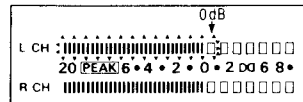
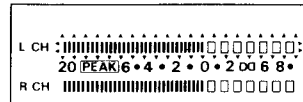

Fig. 21
Fig. 22
B. Adjust VR302 so that the +1dB segment of the FL meter lights up with the input level of 0±0.4dB range of the standard input level (See fig. 21).
7. Repeat twice between steps (5) and (6) above.
8. Adjust ATT and check that all segments light up when an input signal level is increased to 10dB higher than the standard input level (See fig. 22).